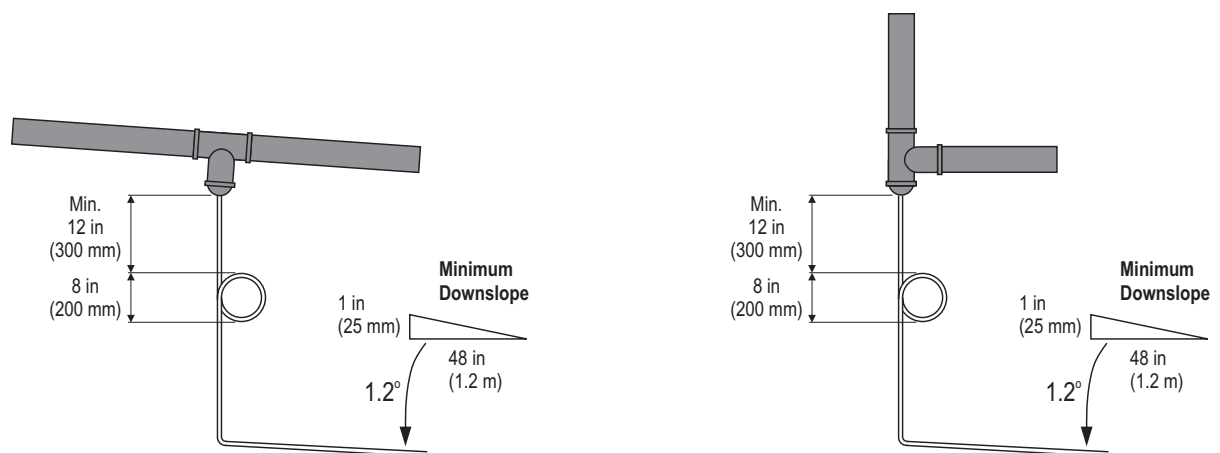

Figure 21: Condensate Drain Lines
- ☐ Condensate lines must connect into full size "Tee" fittings in the steam line. Refer to Figure 21.